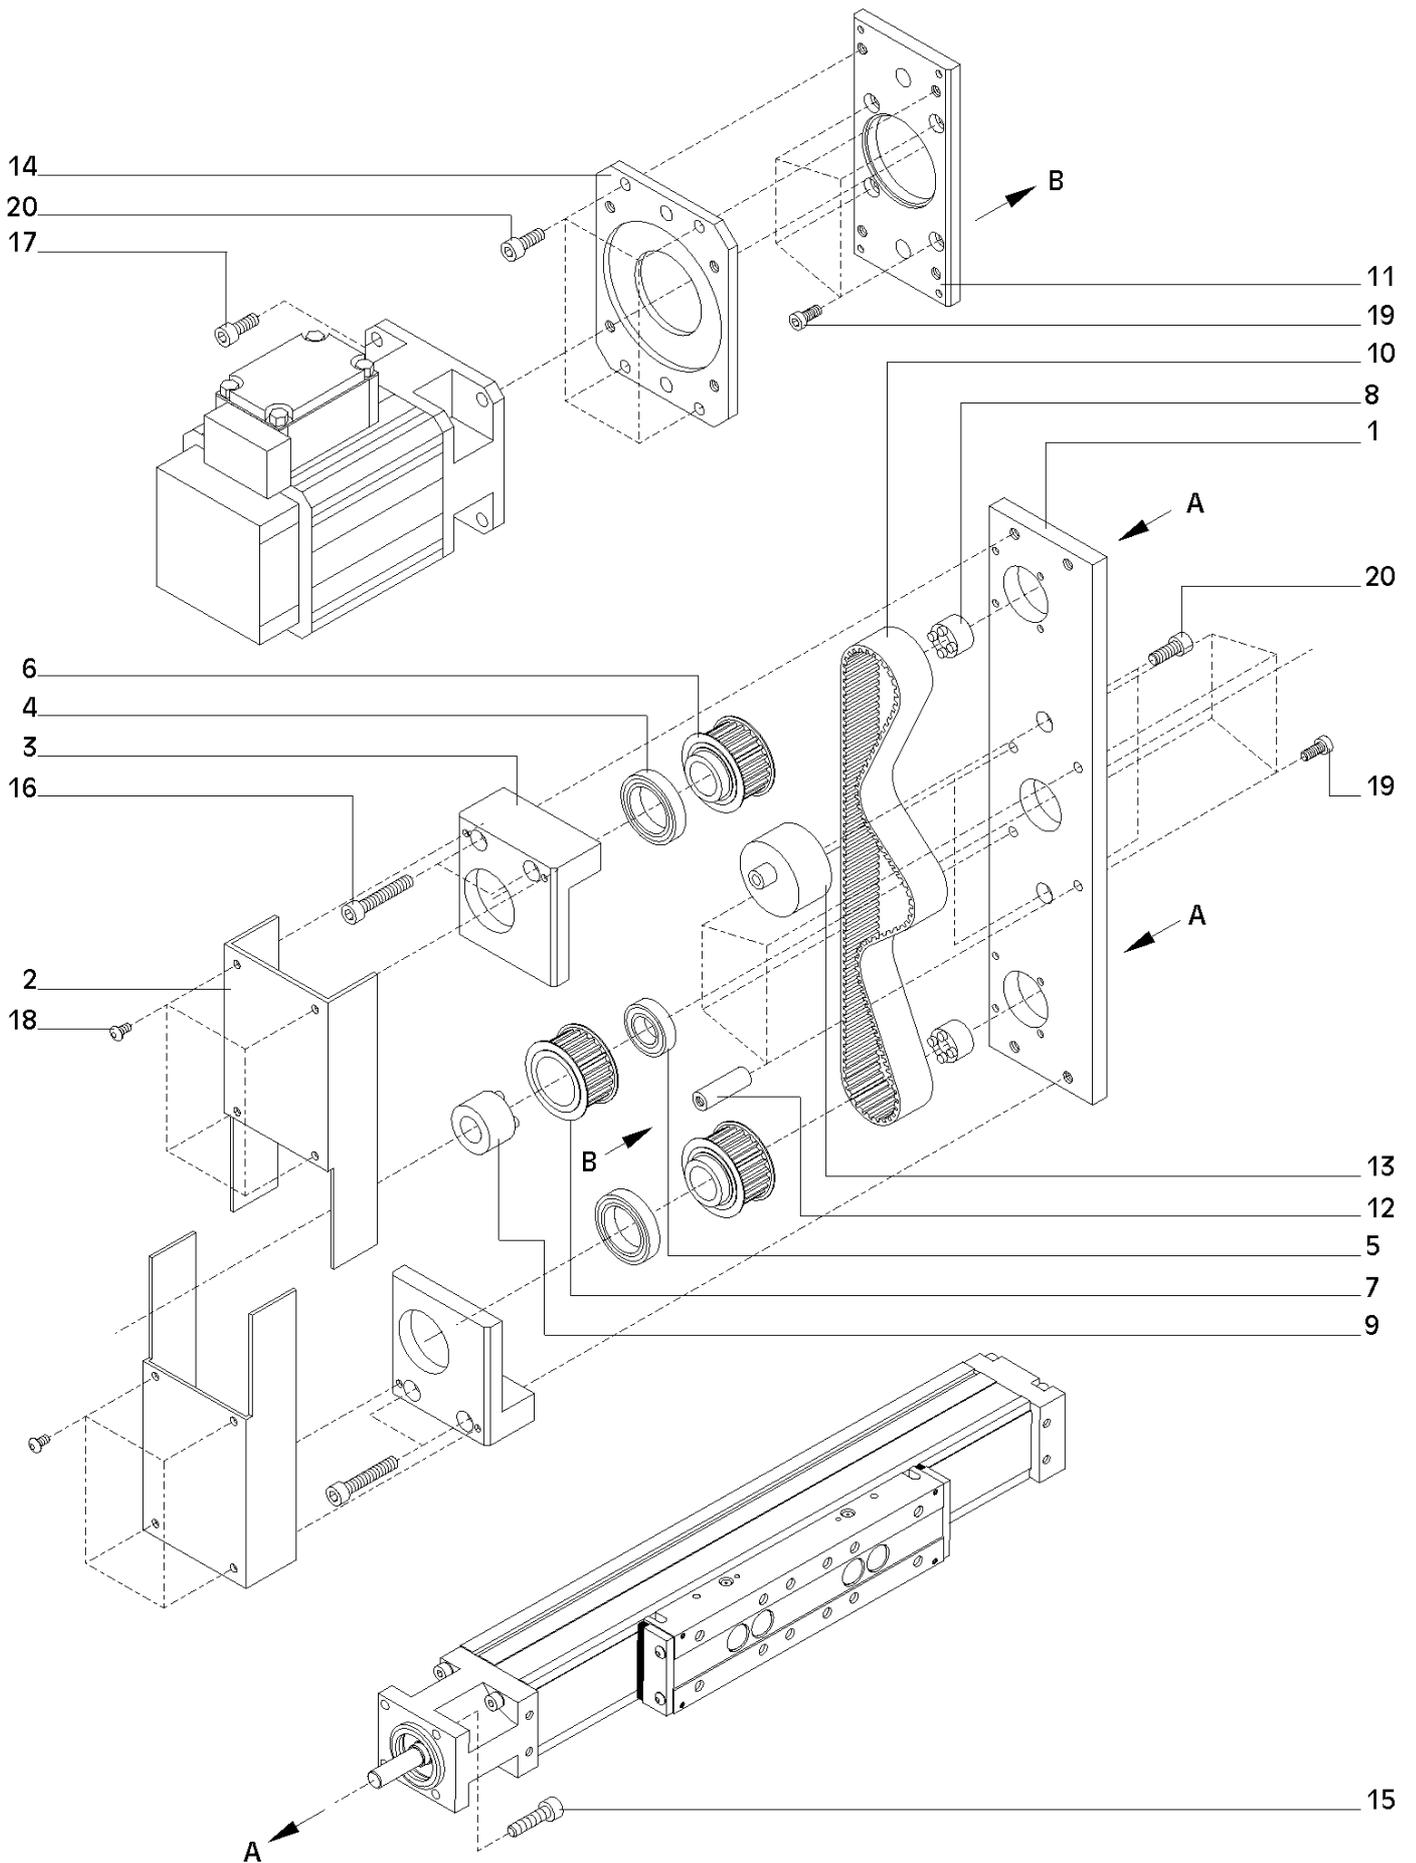

Fig. 12
1. Fig. 12: Fasten the linear drive units to the base plate (1) with the cheese-headed screws (15).
2. Fasten the synchronous sprockets (6) to the drive shafts of the linear units with the tension sets (8) (distance synchronous sprockets – base plate: 1 mm; Tightening torque for screws on DKWN tension set depends on inside diameter (see table in Chapter 10 “Technical Data”).
3. Loosely attach the tensioning rollers (13) to the base plate with two cheese-head screws (17).
4. Insert toothed belt (10).
5. Attach counter-bearing retainer (3) to the base plate with the cheese-head screws (16).
6. Attach the mounting plate (11) to the base plate with the detaining bolts (12) and eight cheese-head screws (19).
7. Attach motor to adapter flange (14) with four cheese-head screws (20).
8. Fasten synchronous sprocket (7) to the motor shaft with the tension set (9) (distance between synchronous sprocket – base plate: 1 mm; tightening torque for screws on DKWN tension set depends on inside diameter (see table in Chapter 10 “Technical Data”).
9. Insert motor with synchronous sprocket into toothed belt, and attach the adapter flange to the mounting plate with four cheese-head screws (20).
11. Attach the cover plates (2) with the countersunk screws (18).